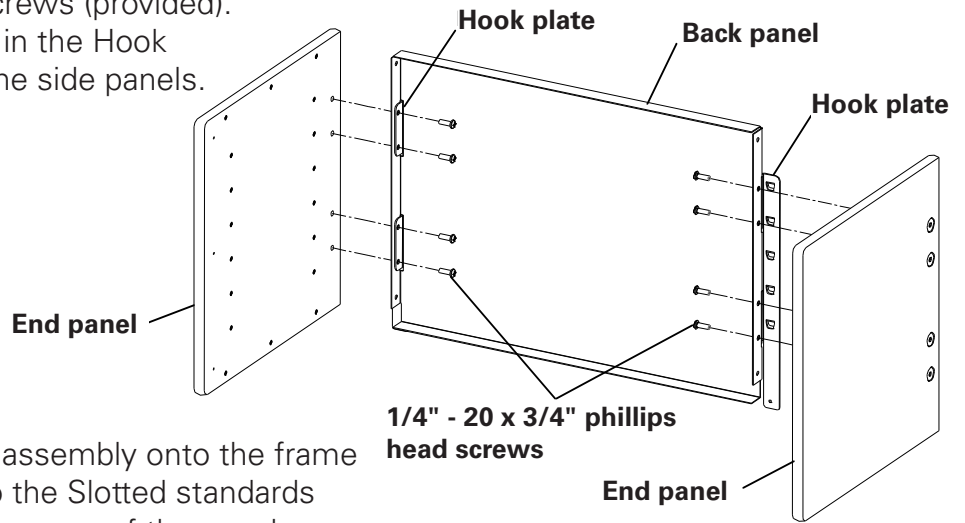

Figure 3
2. Attach the End Panels to the Back Panel using eight 1/4-20 x 3/4" phillips head screws (provided). Insert the screws thru the holes in the Hook Plates and Back Panel and into the side panels. See figure 3.